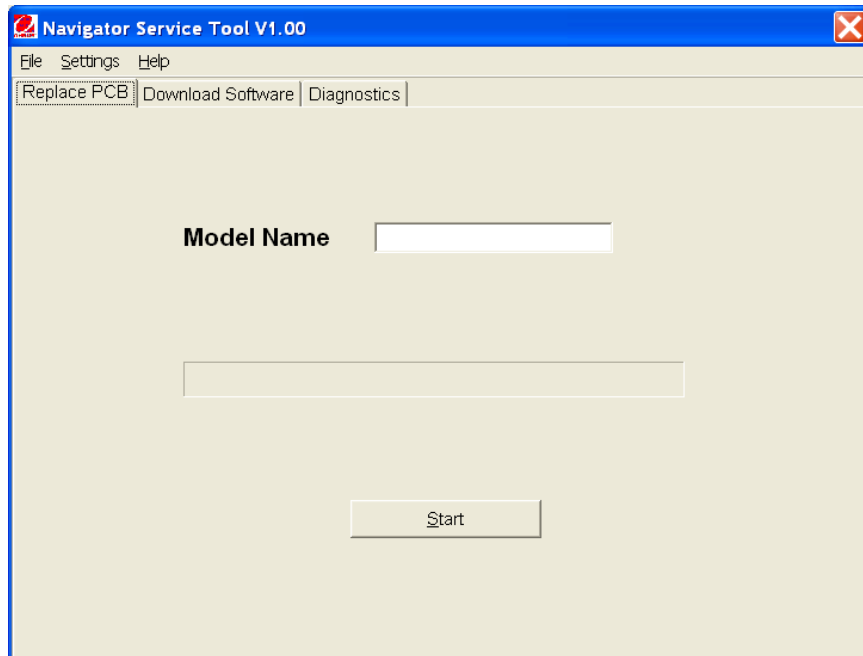

Figure C-1. First screen of the Navigator Service Tool
7. Run the program Service Tool by double clicking the "exe" application file. Figure C-1 will appear.